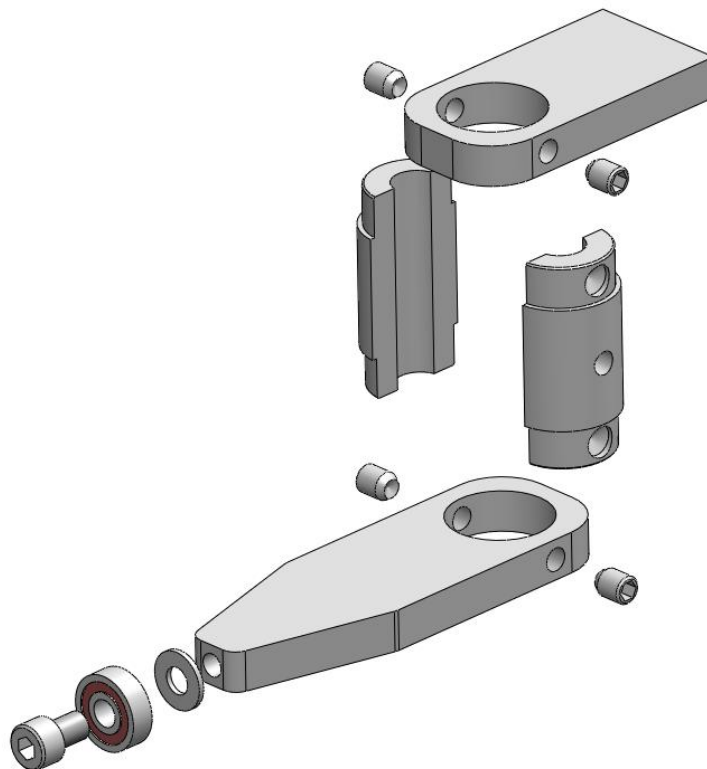

Figure 6: Stemp Clamp used to fasten the Actuator Stem to the Valve Shaft
3. Disconnect the actuator shaft from the valve shaft by loosening the stem clamp (shown in Figure 6 below)